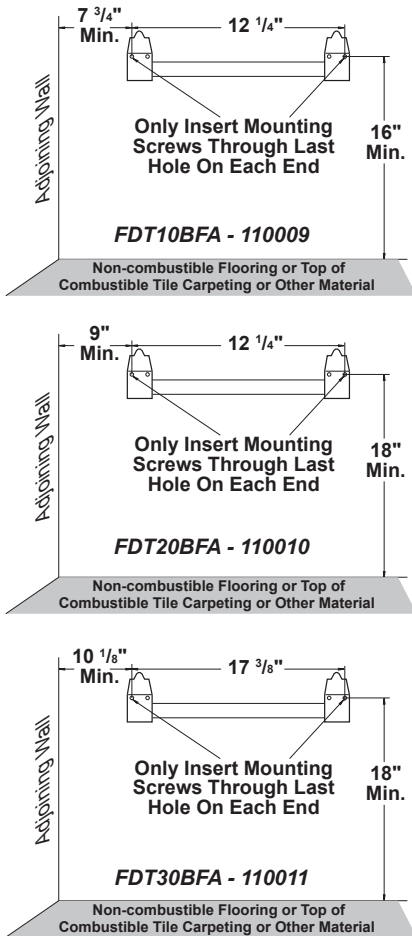

Figure 7 - Mounting Bracket Clearances
2. Mark screw locations on wall (see Figure 7). *Note: Mark only last hole on each end of mounting bracket. Insert mounting screws through these holes only.*